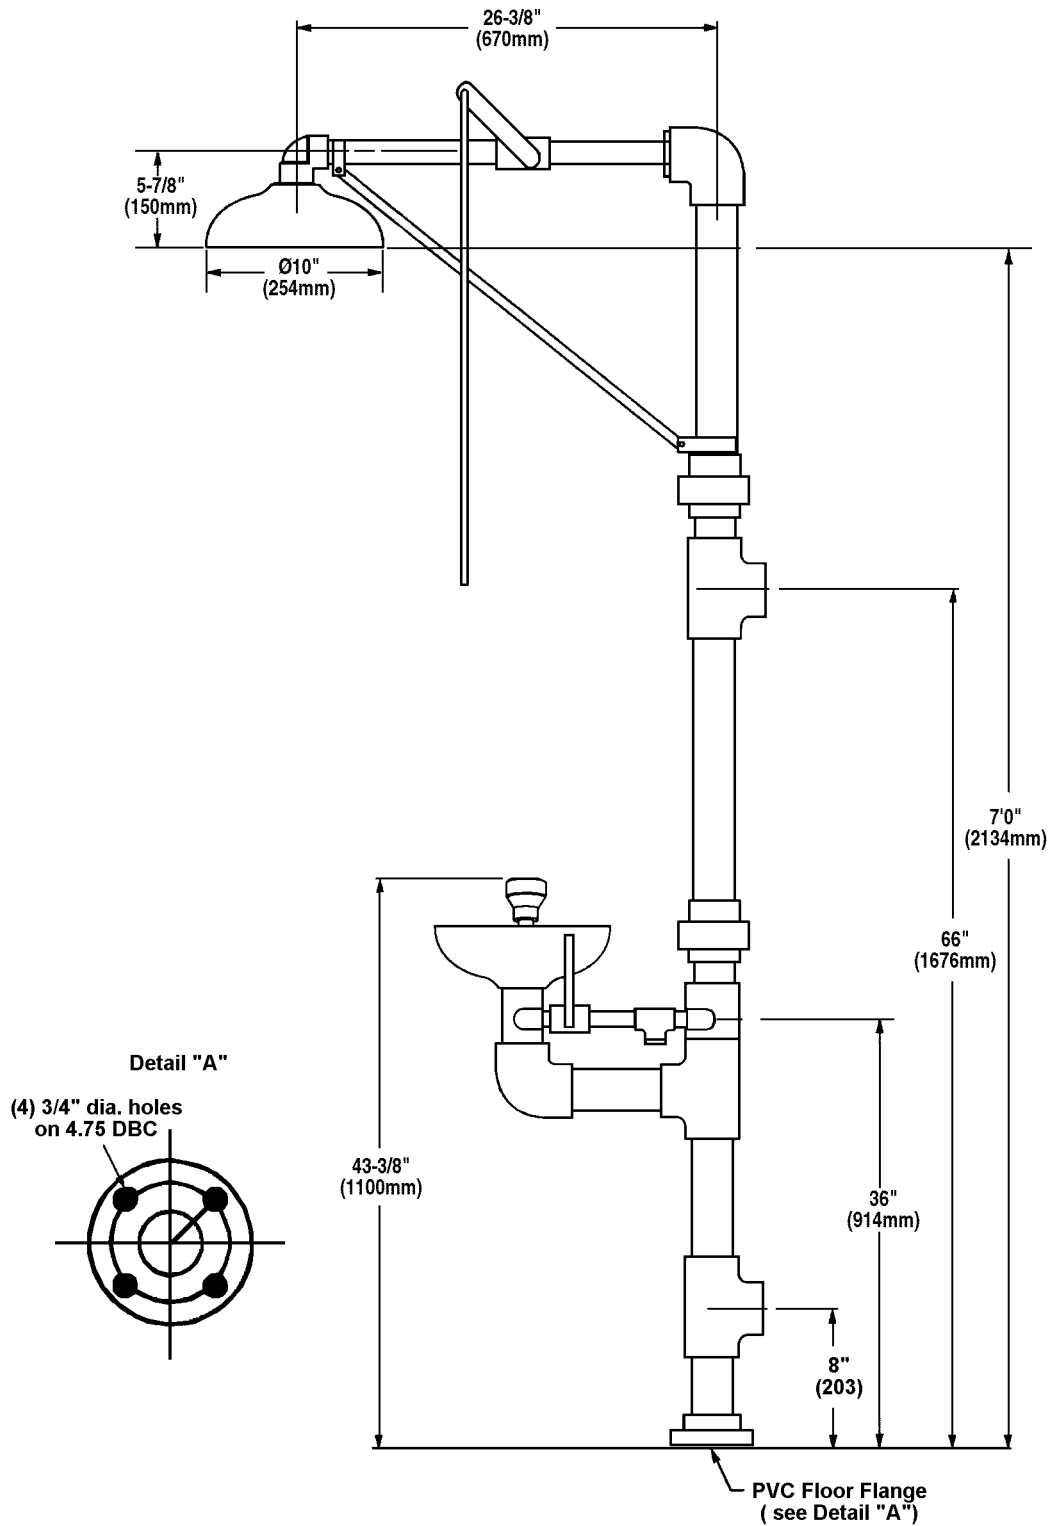

Figure 1
1. To secure base to floor, install four suitable anchors (supplied by installer) for 5/8" bolts in the floor (see Figure 1 on page 3).
3. After the base is secured, assemble the remaining drench shower components as shown in Figure 1. Apply pipe sealant or tape (supplied by installer) to all male threaded pipe joints.